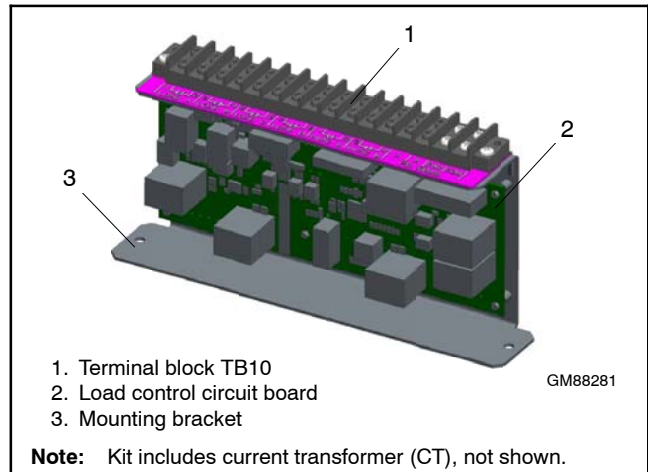

Figure 2-5 Load Shed Assembly (mounts inside the RDT or RXT transfer switch enclosure)
- The optional Load Shed Kit mounts inside a model RDT or RXT transfer switch. Figure 2-5 shows the load shed assembly.